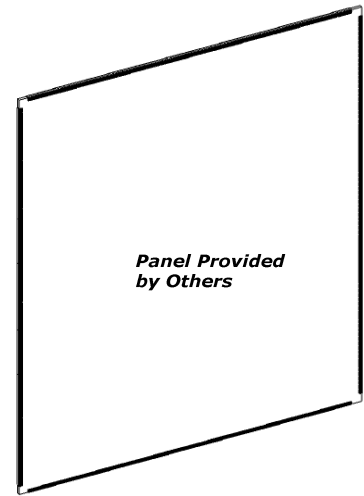

Figure 2
1. Apply glazing material to all four sides of the ¼" panel. **NOTE:** If the panel will be removed periodically, do not glaze the door. **See Figure 2.**